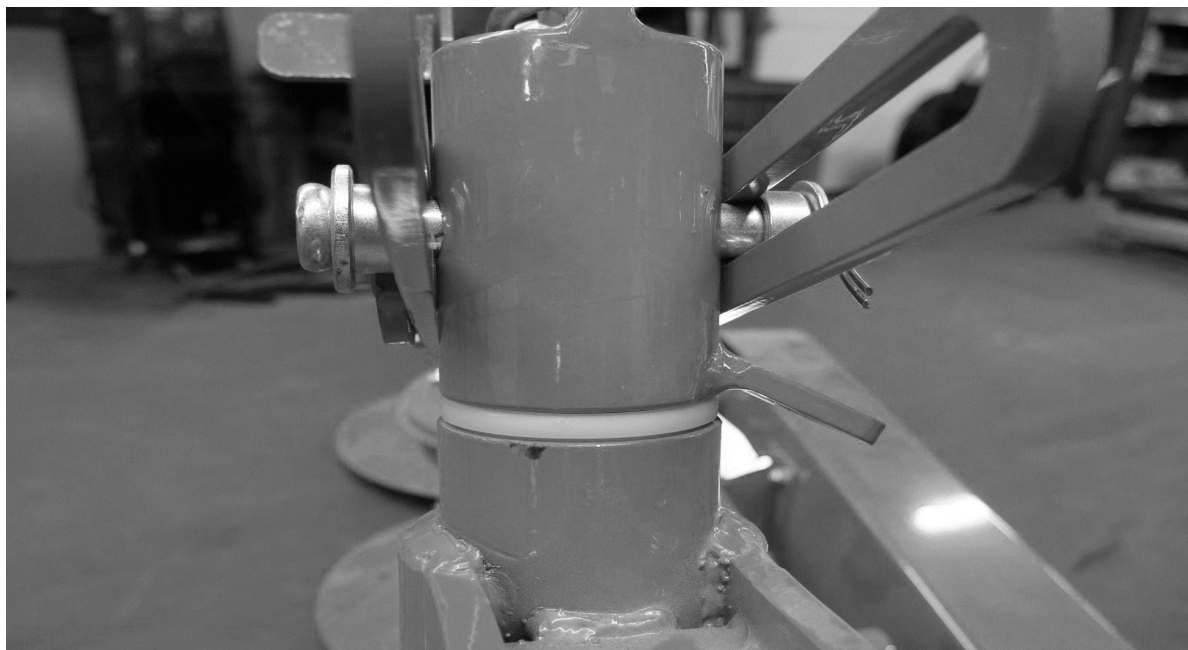

Figure 18
- 3.3.5 Install the polymer bushings into the 3-point pivot frame tube. Apply a thin coat of grease onto the inside of the polymer bushings and install the 3-point pivot frame onto the main frame pivot post. Ensure the polymer bushings are not damaged during installation. Reinstall the yoke adapter cap. Insert the pin through the slots in the suspension assembly and yoke adapter cap as shown in Figure 18.